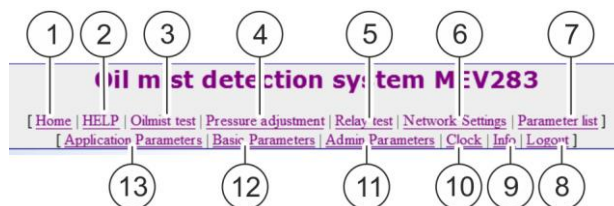

Fig. 42: Menu bar
1. Click on “Network Settings” (Fig. 42/6) in the menu bar.